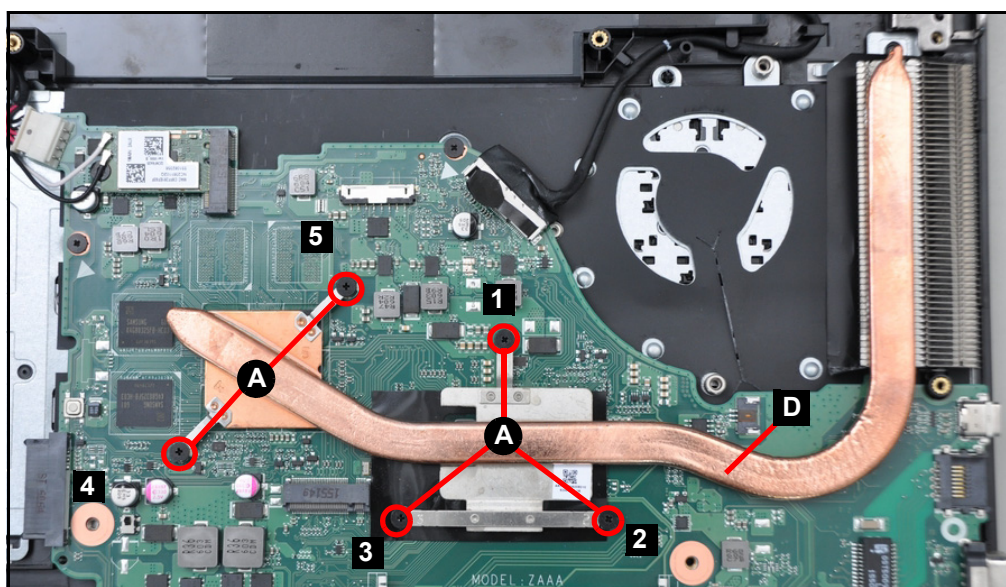

Figure 3-98. Replacing the Heatsink (Discrete)
3. Place the heatsink (D) on the mainboard (Figure 3-98).
4. Install and secure five (5) screws (A) in numerical order from one (1) to five (5) to the mainboard (Figure 3-98). Ensure the heatsink is properly aligned and seated.